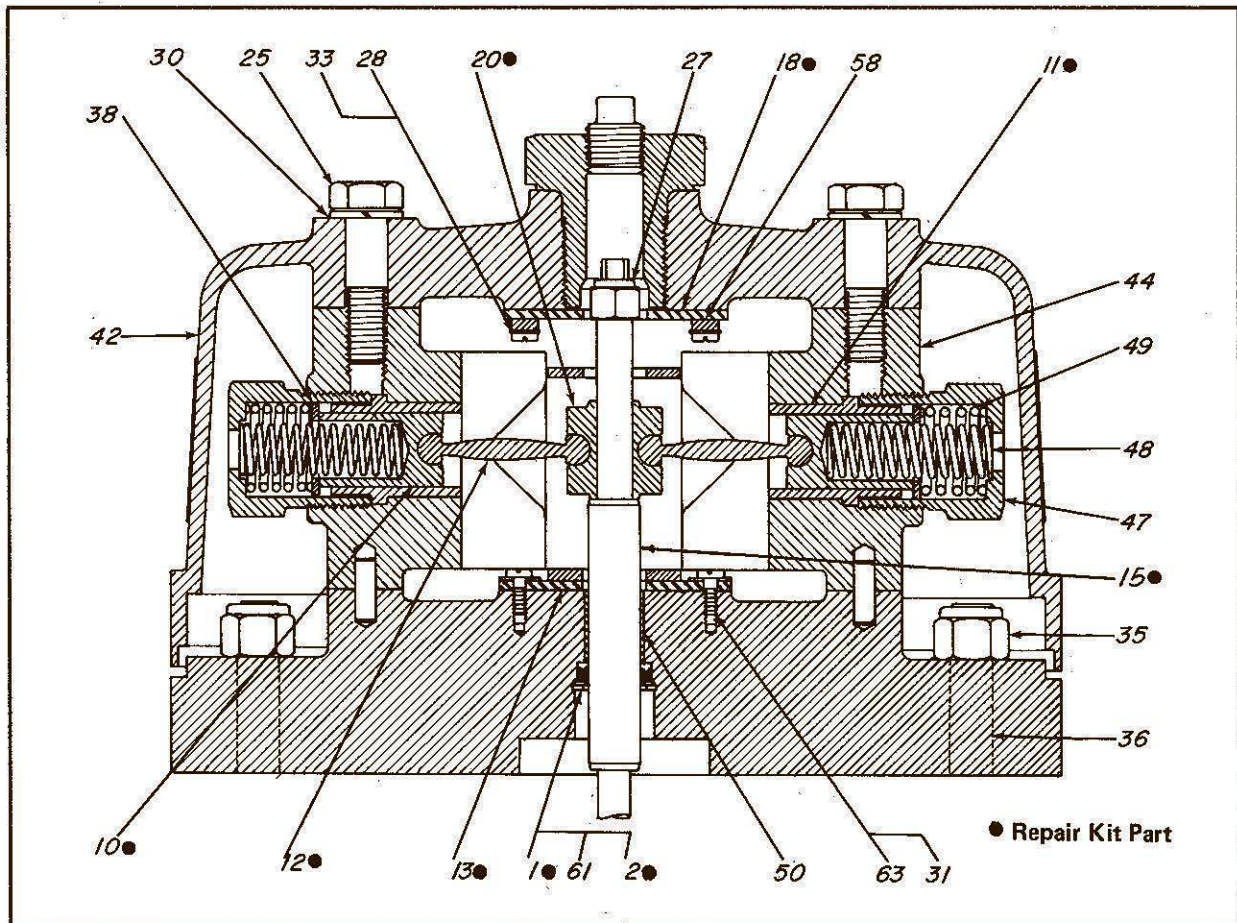

FIGURE 1 330400 and 330400-4 Air Motor Assembly Upper Section
2. Remove air inlet adapter, two hex head cap screws [25] and two lockwashers [30]. Lift off cover [42] (Figure 1).
5. Unscrew hex toggle cap [47] from body [44]; withdraw plunger spring [49], bushing spring [48], and washer [38] from body. Repeat procedure on other body (Figure 1).
6. Remove two hex socket head cap screws [34] and washers [29] securing body [44] to cylinder head [57]. Remove body with plunger bushing [11]. Repeat procedure on other body. (Figures 1, 2, 3).
7. Using a 9/16" open end wrench, detach elastic stop nut [27] on top of trip rod assembly [15] (insert allen wrench in top of rod to keep it from turning) (Figure 1).
12. Remove two screws [63] and washers [31] holding bumper [13] to cylinder head (Figure 1).
13. Unfasten eight cylinder head nuts [35] from tie rods [36]. Carefully lift cylinder head assembly [57] from cylinder [55]. Remove retaining ring [1], washer [61], "O" ring [19], quad ring [2] and bearing [50] from cylinder head (Figure 1 & 3).
1. **CEMENTING:** In replacing bumpers [13] and [18], cement them with 3M-EC-870 or its equivalent (Figure 1).
- b. Both ends of toggles **12** (Figure 1).